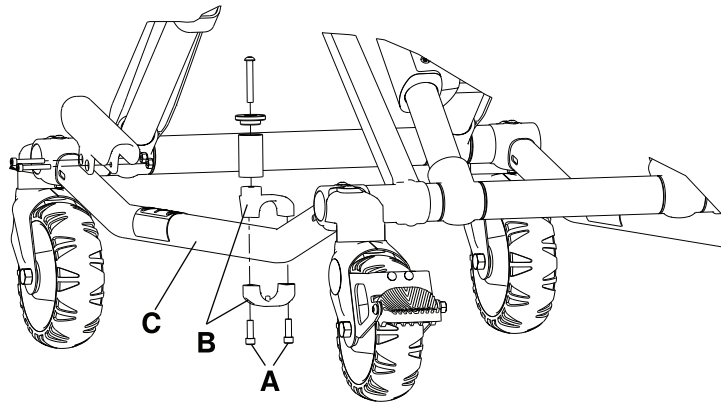

Figure 15: Cot retaining post
1. Using a T30 Torx driver, remove the two socket head cap screws (A) that hold the brackets (B) to the base frame (C) (Figure 15 on page 47). Save the screws.